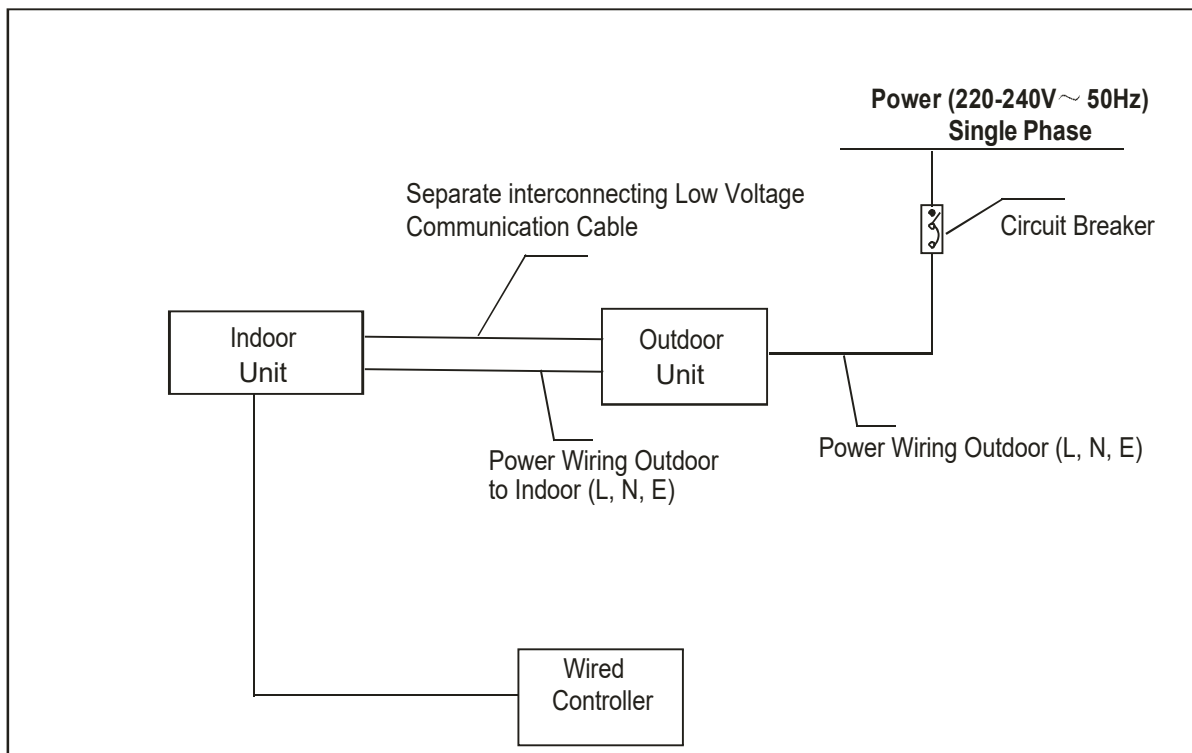
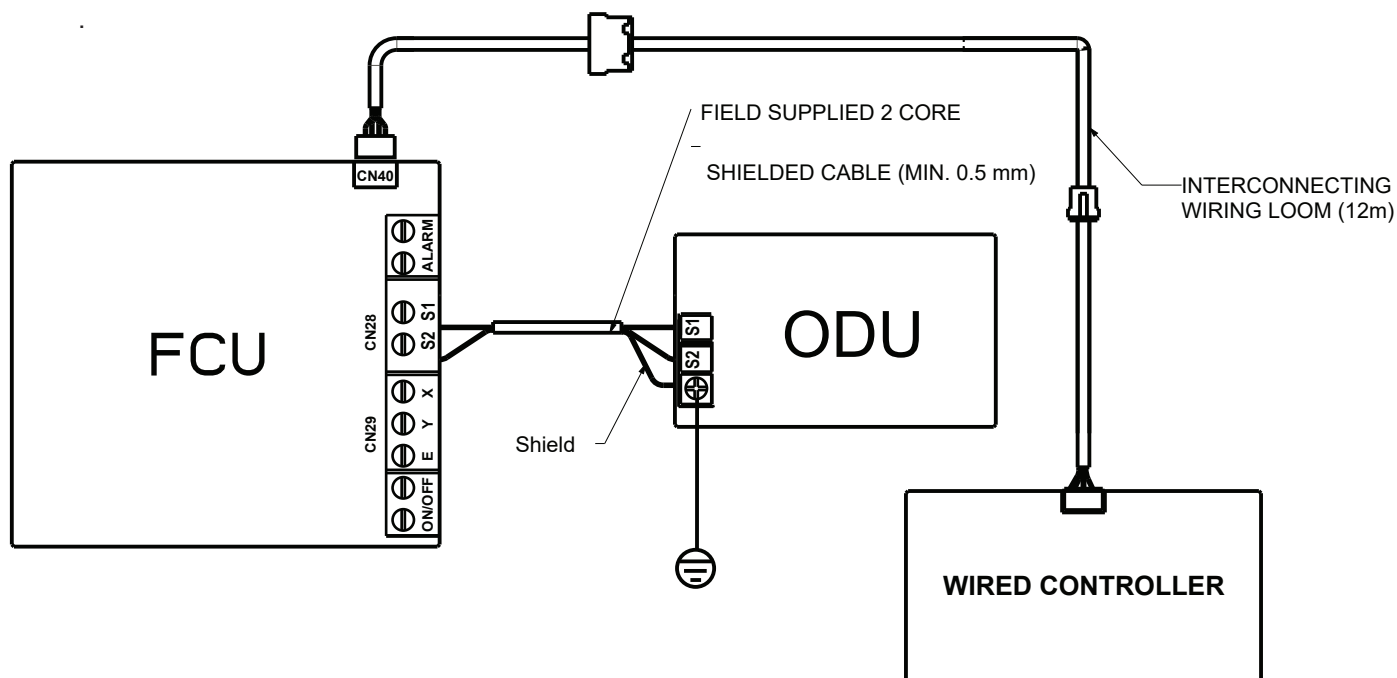

Fig. 13-2
Fig. 13-3
13.3 Wiring Diagrams (Refer to Fig.13-2~Fig.13-3)